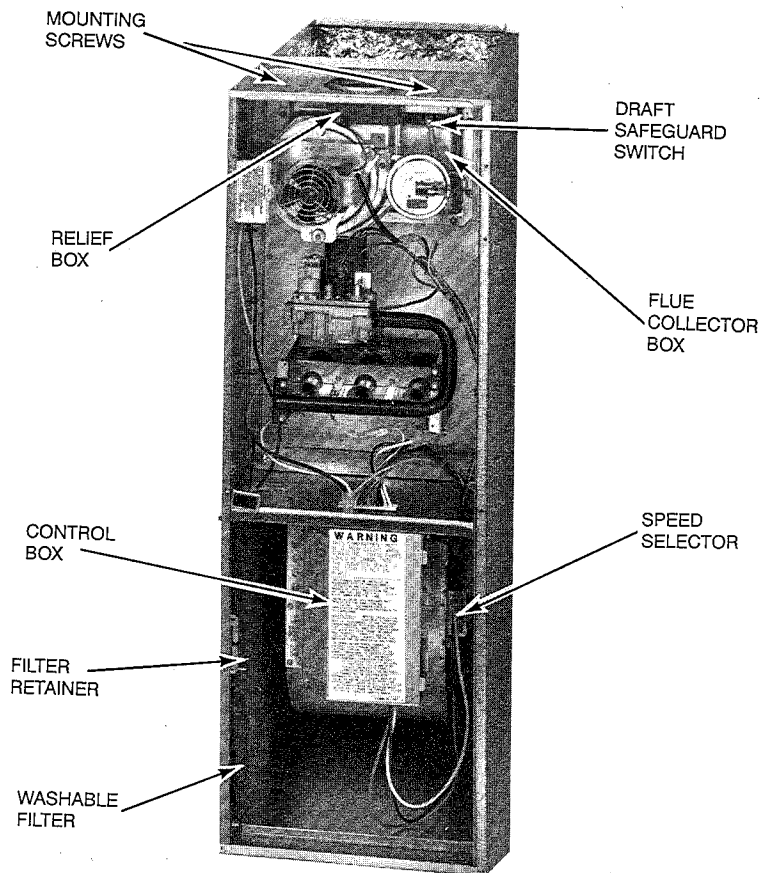

Fig. 6—Model 58PAV Upflow
Each furnace requires one or two filters which are installed in the blower compartment. (See Fig. 6.) To remove filters for cleaning or replacement, proceed as follows:
- b. Release filter retainer from clip at front of furnace casing. (See Fig. 6.) For side return, clips may be used on either (or both) sides of the furnace.
4. Remove electrical leads from numbered side of Molex speed selector. (See Fig. 6 and 7.) Note location of wires for reassembly.
4. Remove two screws that secure relief box. (See Fig. 6 or 7.)